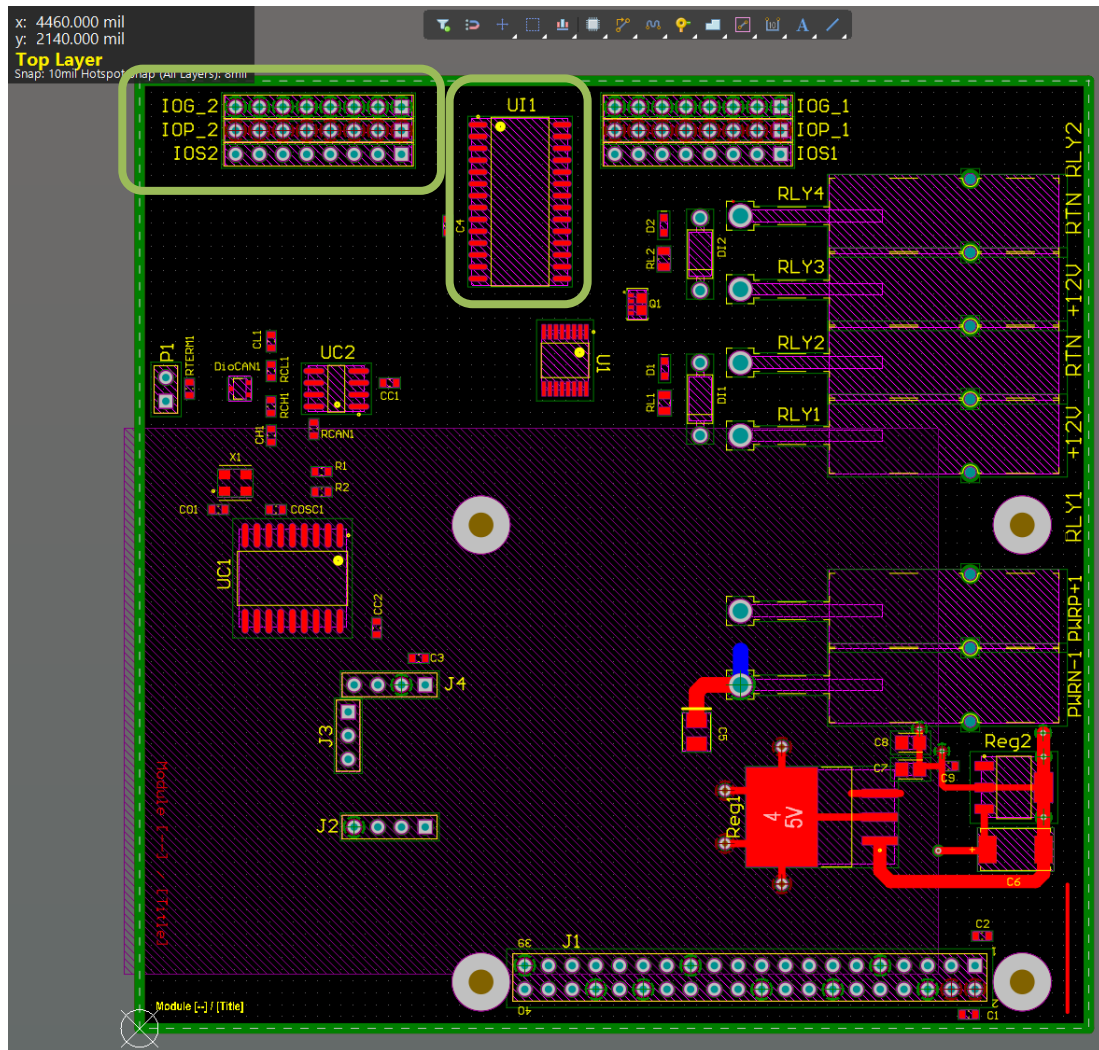
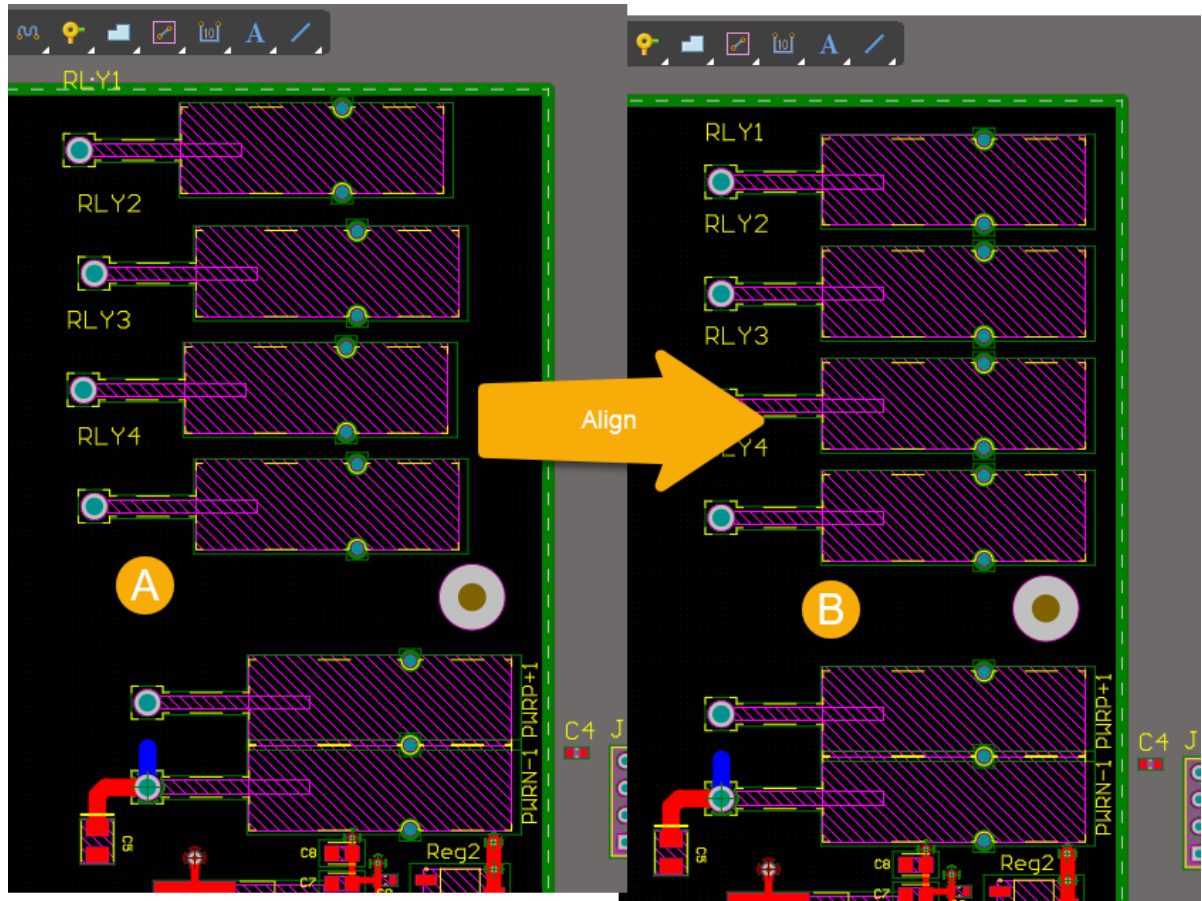

Figure 10. Placement for WCTopping training PCB
Figure 11. First placement for Anderson RLY1-RLY4 and the final position after using the Align commands
33. Continue placing components using the methods below, while using Figure 10 as a reference:
- a) Use the **Move** command using the **Edit » Move » Move (M, M)** hotkeys and left-click on component **IOG_2** and move to its new position as shown in Figure 10.
- c) Still in the Move command select **IOS2** and **IOP_2** and place them below of **IOG_2**, as seen at Figure 10.
34. Continue placing components using the methods below, while using Figure 10 as a reference:
- a) Use the Move command using the **Edit » Move » Move (M, M)** hotkeys and left-click on component **UI1** and move to its new position as shown in Figure 10.
Next, position components RLY1, RLY2, RLY3 and RLY4 so that the result looks similar to Figure 10.
35. Select components RLY1, RLY2, RLY3, and RLY4 and position the Anderson Connectors as seen at Figure 11 A.
The position does not need to be exact. Position the four Anderson connectors in a way that they are more to the left as the 2 Anderson connectors already placed with the Union Power Supply WCTopping reuse block, Figure 11 A.
- Your result should be similar to Figure 11 or Figure 10